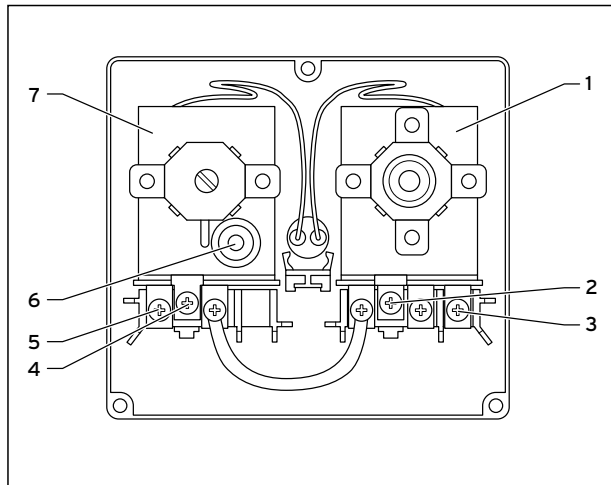

Fig. 5.8 Cylinder thermostat and thermal cut-out (TCO) for reheating circuit
- Connect the terminals **1** (cylinder thermostat) (**3 → fig. 5.8**) and **C** (reheating circuit TCO) (**5 → fig. 5.8**) to the terminal **CYL.** of the VR 65.